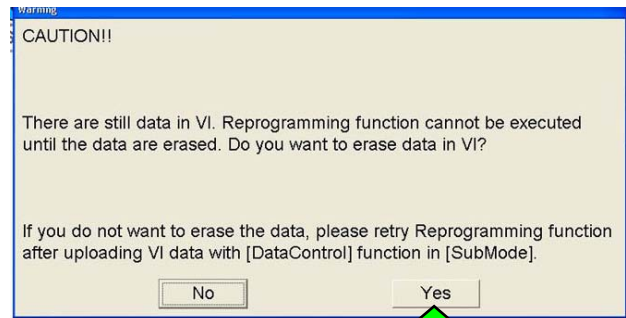

Figure 18
**NOTE:** If the message shown in Figure 18 appears, there is data stored in the plus VI. Select **Yes** to proceed with reprogramming.